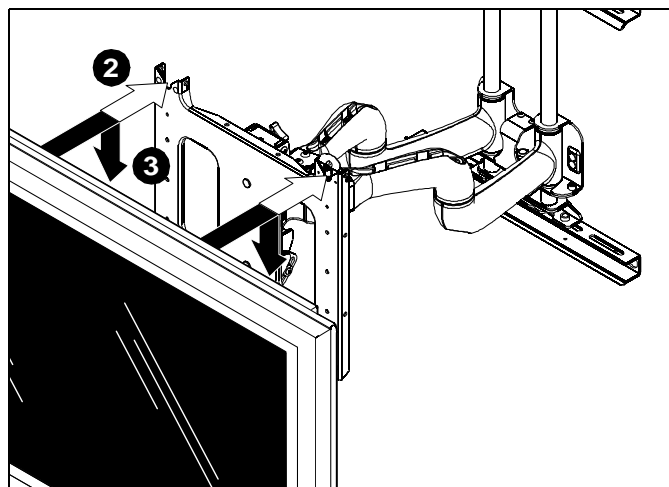
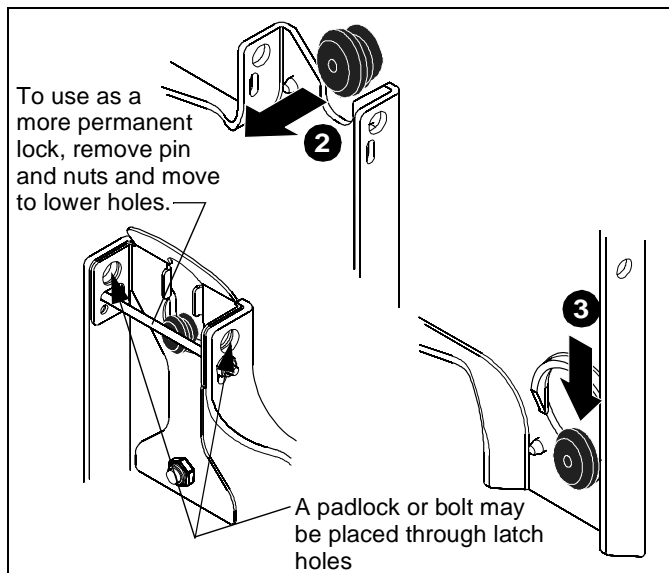

Figure 5
Figure 6
2. While supporting both sides of display, align four mounting buttons on display or interface bracket with four mounting holes in faceplate. (See Figure 5)
3. Lower display into place listening for audible "click" to ensure recessed area of mounting buttons are properly seated in lower area of mounting holes and ClickConnect mechanism has engaged. (See Figure 5) and (See Figure 6)
NOTE: Holes are provided in the faceplate for use with a padlock or similar locking device, if desired. In addition, the pin and nut may be removed from the upper holes and moved to the lower holes for use as a more permanent locking device. (See Figure 6)